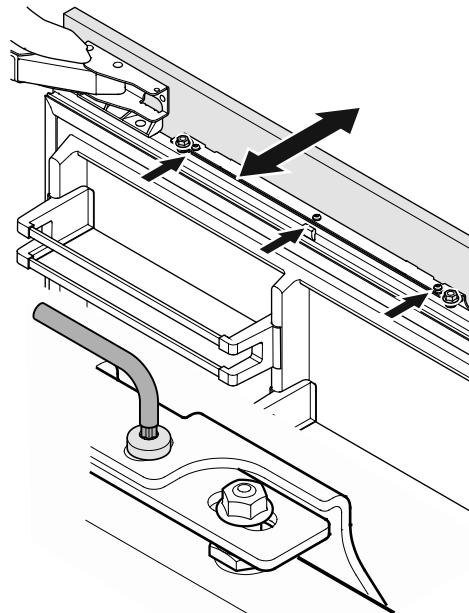

Figure 32
10. Loosen the three screws on the top of the attachment bracket, align the panel as shown in Figure 32 and tighten the screws. This can also be done with the lower attachment bracket.